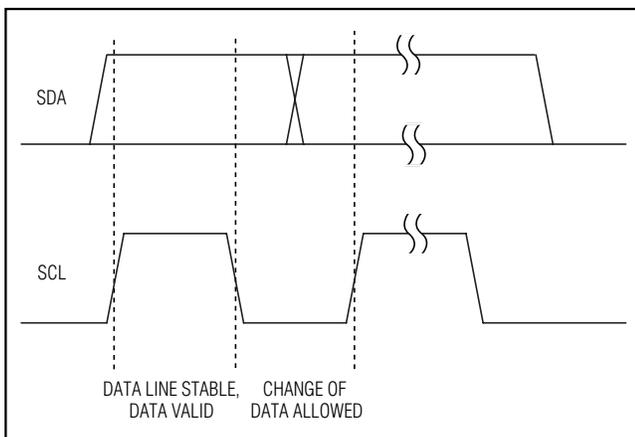
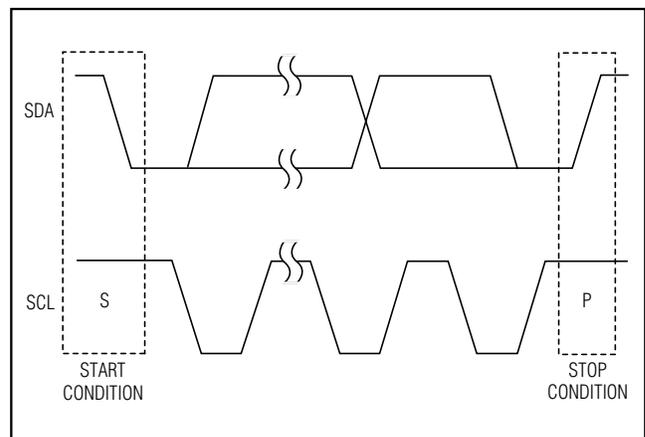
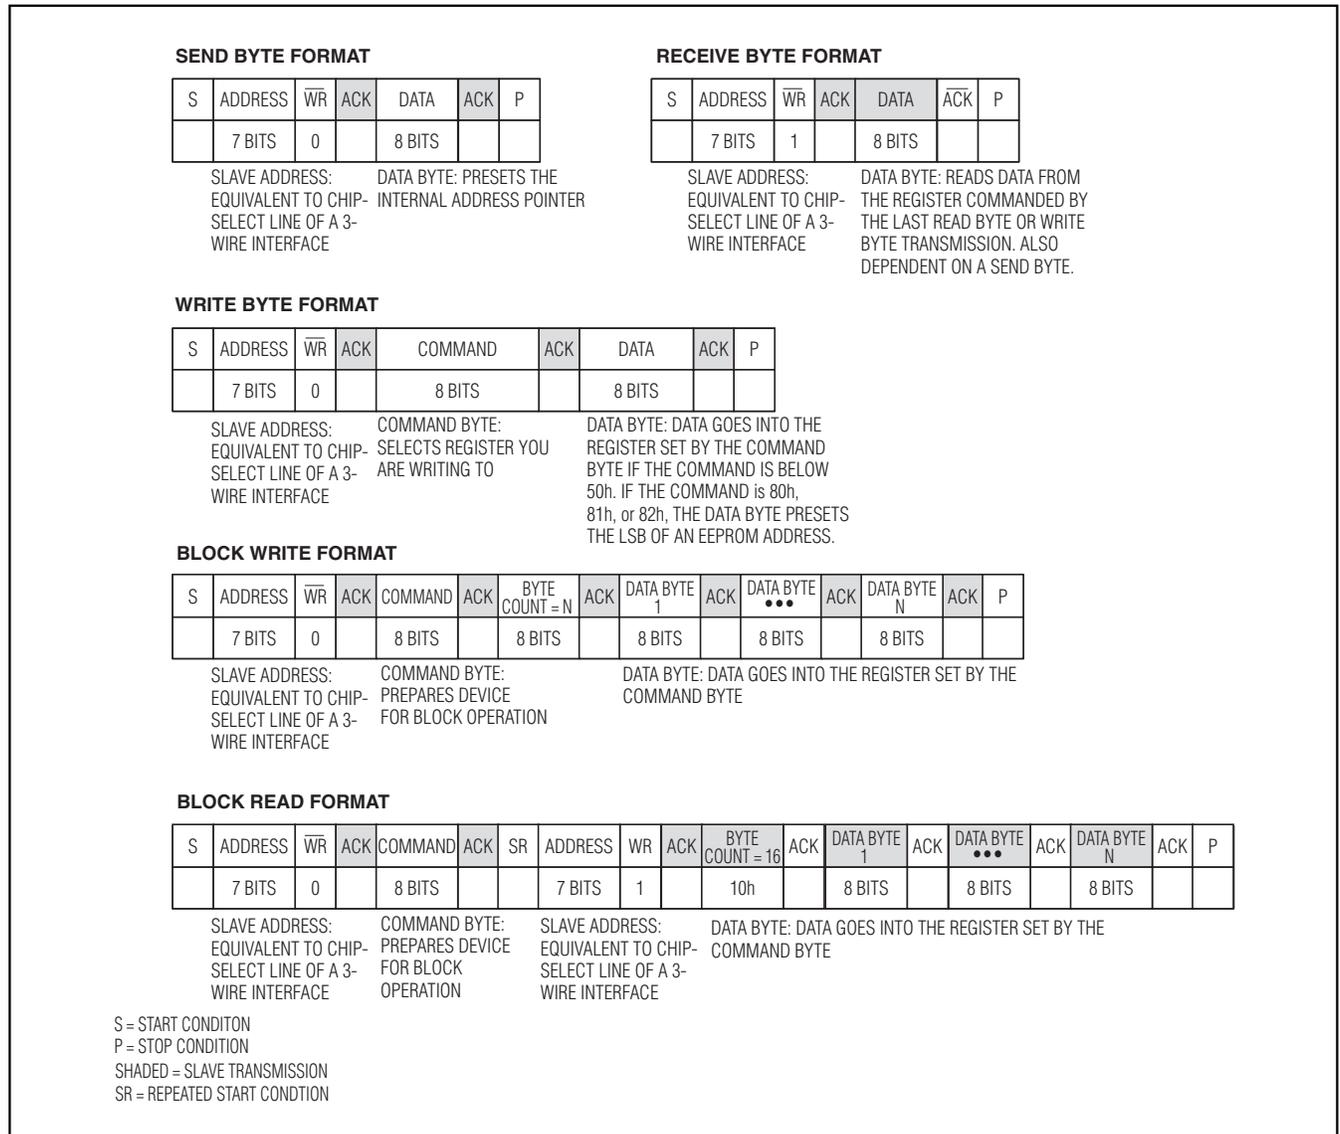

Figure 7. Bit Transfer
Figure 8. Start and Stop Conditions
Figure 11. SMBus/I²C Protocols
Each clock pulse transfers one data bit. The data on SDA must remain stable while SCL is high (see Figure 7), otherwise the MAX6884/MAX6885 register a START or STOP condition (see Figure 8) from the master. SDA and SCL idle high when the bus is not busy.
Both SCL and SDA idle high when the bus is not busy. A master device signals the beginning of a transmission with a START (S) condition (see Figure 8) by transitioning SDA from high to low while SCL is high. The master device issues a STOP (P) condition (see Figure 8) by transitioning SDA from low to high while SCL is high. A STOP condition frees the bus for another transmission. The bus remains active if a REPEATED START condition is generated, such as in the block read protocol (see Figure 11).
A REPEATED START (SR) condition may indicate a change of data direction on the bus. Such a change occurs when a command word is required to initiate a read operation (see Figure 11). SR may also be used when the bus master is writing to several I²C devices and does not want to relinquish control of the bus. The MAX6884/MAX6885 serial interface supports continuous write operations with or without an SR condition separating them. Continuous read operations require SR conditions because of the change in direction of data flow.
The send byte protocol allows the master device to send one byte of data to the slave device (see Figure 11). The send byte presets a register pointer address for a subsequent read or write. The slave sends a NACK instead of an ACK if the master tries to send an address that is not allowed or if the device is writing data to EEPROM or is booting. If the master sends C0h, the data is ACK, because this could be the start of the block write protocol, and the slave expects following data byte. If the master sends a STOP condition, the internal address pointer does not change. If the master sends C1h, this signifies that the block read protocol is expected, and a repeated START condition should follow. The device reboots if the master sends C4h. The send byte procedure follows:
The write byte protocol allows the master device to write a single byte in the register bank or in the EEPROM (see Figure 11). The write byte/word procedure follows:
The block write protocol allows the master device to write a block of data (1 to 16 bytes) to the EEPROM or to the register bank (see Figure 11). The destination address must already be set by the send byte protocol and the command code must be C0h. If the number of bytes to be written causes the address pointer to exceed 2Fh for the configuration register or 9Fh for the configuration EEPROM, the address pointer stops incrementing, overwriting the last memory address with the remaining bytes of data. Only the last data byte sent is stored in 17h (as 2Fh is read only and a write cause no change in the content). If the number of bytes to be written exceeds the address pointer 9Fh for the user EEPROM, the address pointer stops incrementing and continues writing exceeding data to the last address. Only the last data is actually written to 9Fh. The block write procedure follows:
The read byte protocol allows the master device to read the register or an EEPROM location (user or configuration) content of the MAX6884/MAX6885 (see Figure 11). The read byte procedure follows:
The block read protocol allows the master device to read a block of 16 bytes from the EEPROM or register bank (see Figure 11). Read fewer than 16 bytes of data by issuing an early STOP condition from the master, or by generating a NACK with the master. Previous actions through the serial interface predetermine the first source address. It is suggested to use a send byte protocol, before the block read, to set the initial read address. The block read protocol is initiated with a command code of C1h. The block read procedure follows: